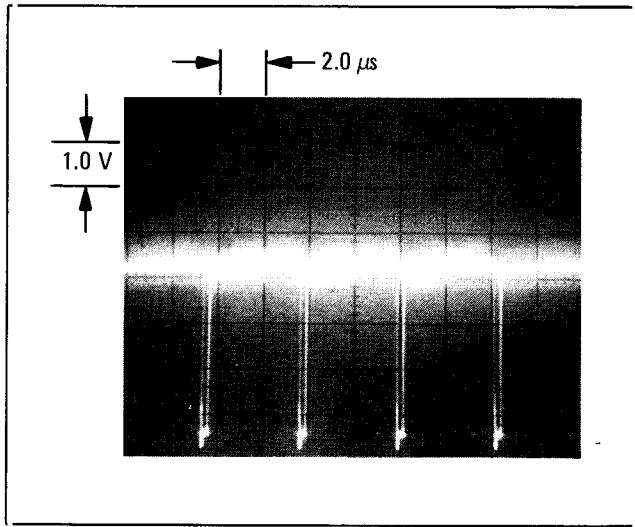

Figure 5. Oscilloscope Display of Counter 0 Input at J3-Pin3 (with ac coupling and internal triggering)
4. Check the waveform for J3-Pin 3 as shown in Figure 5. The frequency of the Signal Generator is 90 MHz. Measurement is made using a 1:1 probe.